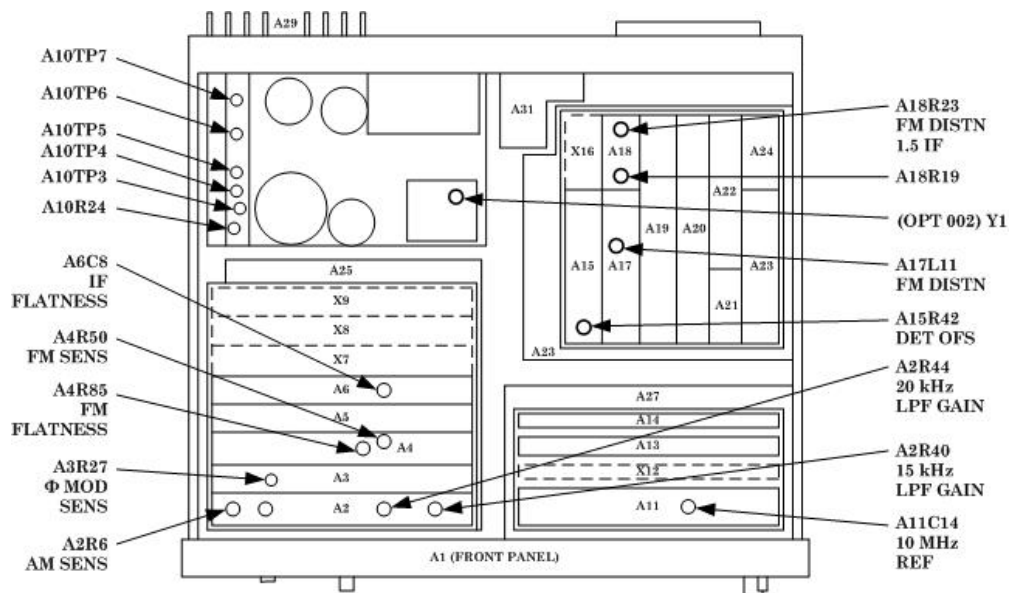

Figure 1. Modulation analyzer - top view.
(1) Connect frequency difference meter signal input to TI INT 10 MHz OUT or rear panel time base 10 MHz OUTPUT (OPTION 002).
(2) Connect time/frequency workstation output to frequency difference meter reference input. If TI frequency stability is not $>1 \times 10^{-9}$, perform **b** below.
b. Adjustments. Adjust Y1 COARSE and FINE controls (fig. 1) for a frequency stability of $>1 \times 10^{-9}$.
- (1) Connect TI **CALIBRATION OUTPUT** to TI **INPUT**.
- (2) Press **MEASUREMENT AM** and **CALIBRATION** pushbuttons and allow time for at least two readings. TI indication will be between 99 and 101 percent.
- (3) Press **2.2 SPCL** pushbuttons and allow time for at least two readings. If TI does not indicate between 99 and 101 percent, perform **b** below. Record indication for use in paragraph 13.
b. Adjustments. Adjust A2R6 AM SENS (fig. 1) for 100 percent indication on TI display (R).
- (8) Press **MEASUREMENT FREQ** pushbutton.
- (9) Adjust calibration fixture frequency to 100 MHz.
- (10) Position TI controls as listed in (a) through (d) below:
- (11) Adjust calibrator output for a 20 kHz average deviation as displayed on TI.
- (12) Press **TI RATIO %** pushbutton.
- (13) Move connection to **FM ÷ 32 OUTPUT** without disturbing calibration fixture controls. Multiply displayed ratio by value recorded in (2) above. Result will be between 12.35 and 12.65 percent REL.
b. Adjustments. Adjust A4R50 FN SENS (fig. 1) for a 100 percent indication on TI display (R).